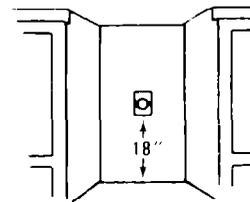

FIGURE 8
6. A grounded receptacle should be located 18" from the floor and in the center of the opening. See Figure 8.